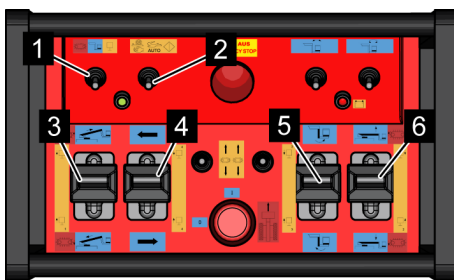

Fig. 61: Operation of outriggers
4. ➔ Press the toggle switch (Fig. 61/1) to the right into the [Outrigger function] (yellow) position.
5. ➔ Press the toggle switch (Fig. 61/2) to the left into the [Manual] position.
6. ➔ With the control levers (Fig. 61/3 to 6) select the desired outrigger(s) and extend the outrigger in question by pressing the corresponding control lever forwards.